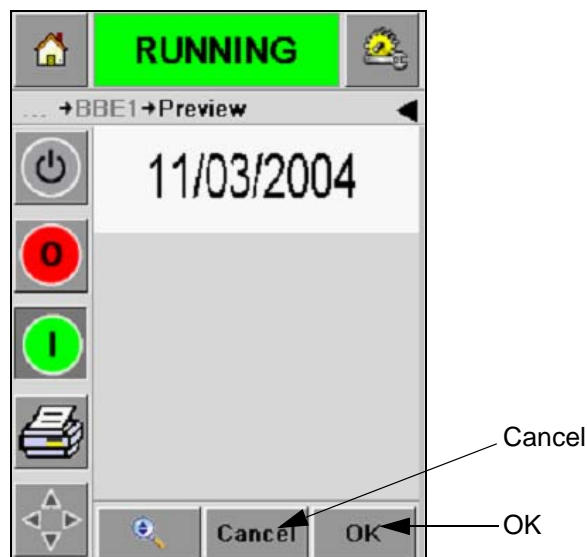

Figure 5-6: Job Preview
If you must cancel the process of job selection, touch the *Cancel* button or the *Home* button (refer to Figure 5-6 on page 5-5).
- 4 When you select the required job, the CLARiTY displays a print preview of the selected job (Figure 5-6).
- 5 Touch the *OK* icon after the information displayed is correct (Figure 5-6). The printer starts printing the job.